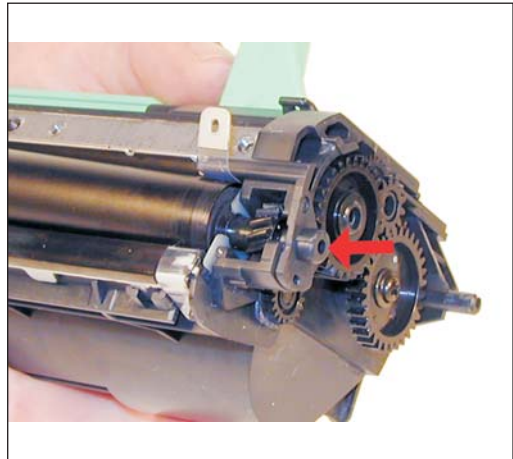

Figure 18
13) Install the two developer roller hubs, Contact hub on the left, non-contact on the right. Make sure that the clear plastic strips fit over the hub tabs. See Figures 18, 19, & 20